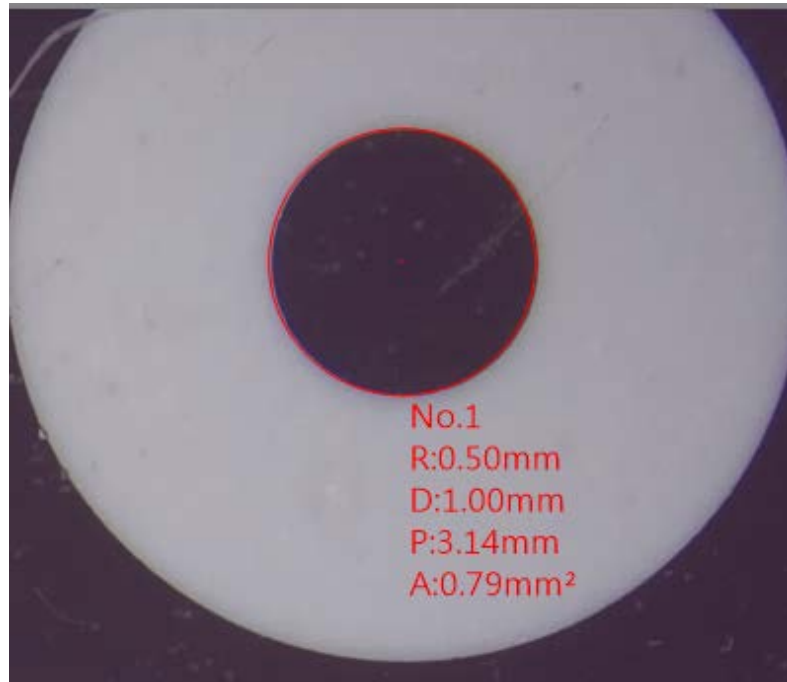

Fig. 5-11 3 Point Circle measurement
- (7) 3 Point Circle : When the object is Circle or just a Arc that can apply  tool. Point 1st point on the edge of object, then point 2nd point, again drag toward 3rd point, that automatically draw a circle. In the Fig. 5-11, Radius is R=0.50 mm, Diameter is D=1.00 mm, Perimeter is P=3.14 mm and Area is A=0.79 mm².